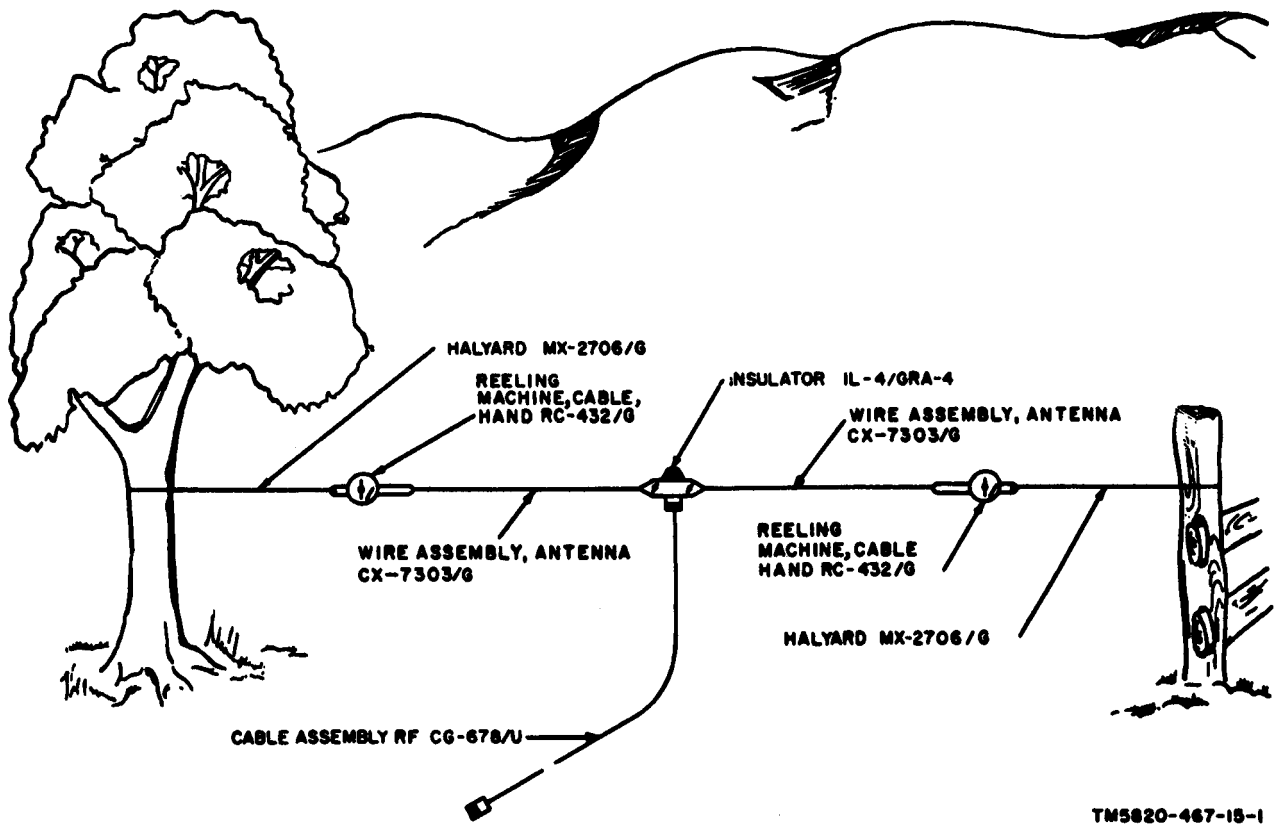

Figure 1. Antenna Group AN/GRA-50, typical installation.
This manual describes Antenna Group AN/GRA-50 (fig. 1) and covers installation, maintenance, and theory of operation.
a. Purpose. Antenna Group AN/GRA-50 (fig. 1) is a doublet antenna assembly used for the transmission and reception of radio signals between 1.5 and 20 megacycles (mc).